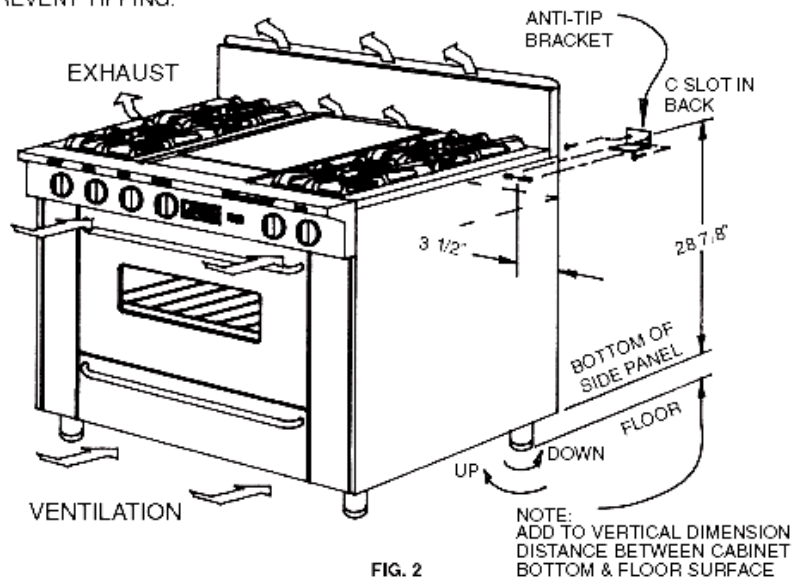

FIG. 2
- 3) REMOVE RANGE AND INSTALL ANTI-TIP BRACKET TO WALL, SEE NOTE, FIG. 2.
NEVER BLOCK THE FLOW OF AIR FOR COMBUSTION OR VENTILATION. SEE FIG. 2.
Ranges and cooktops must be level to obtain proper cooking results. Ranges adjust from 35 7/8" to 37 7/8" or 2" max. All units must be level front-to-back and side-to-side. See FIG. 2.